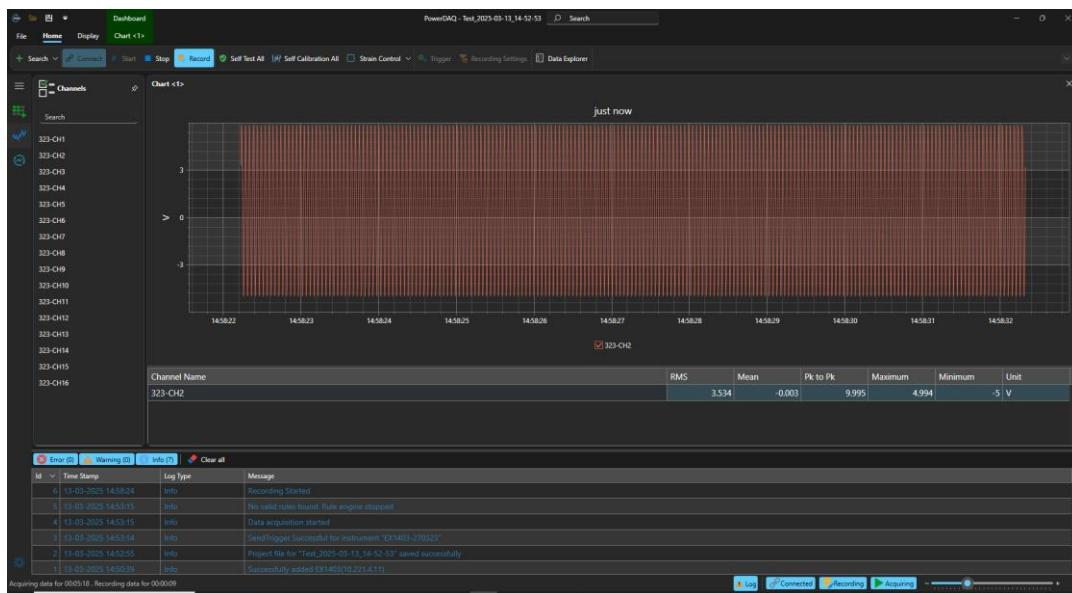

Figure 30. Record Data
1. Click the **Record** button on the **Chart <1>** to start recording the data. Refer to Figure 30.